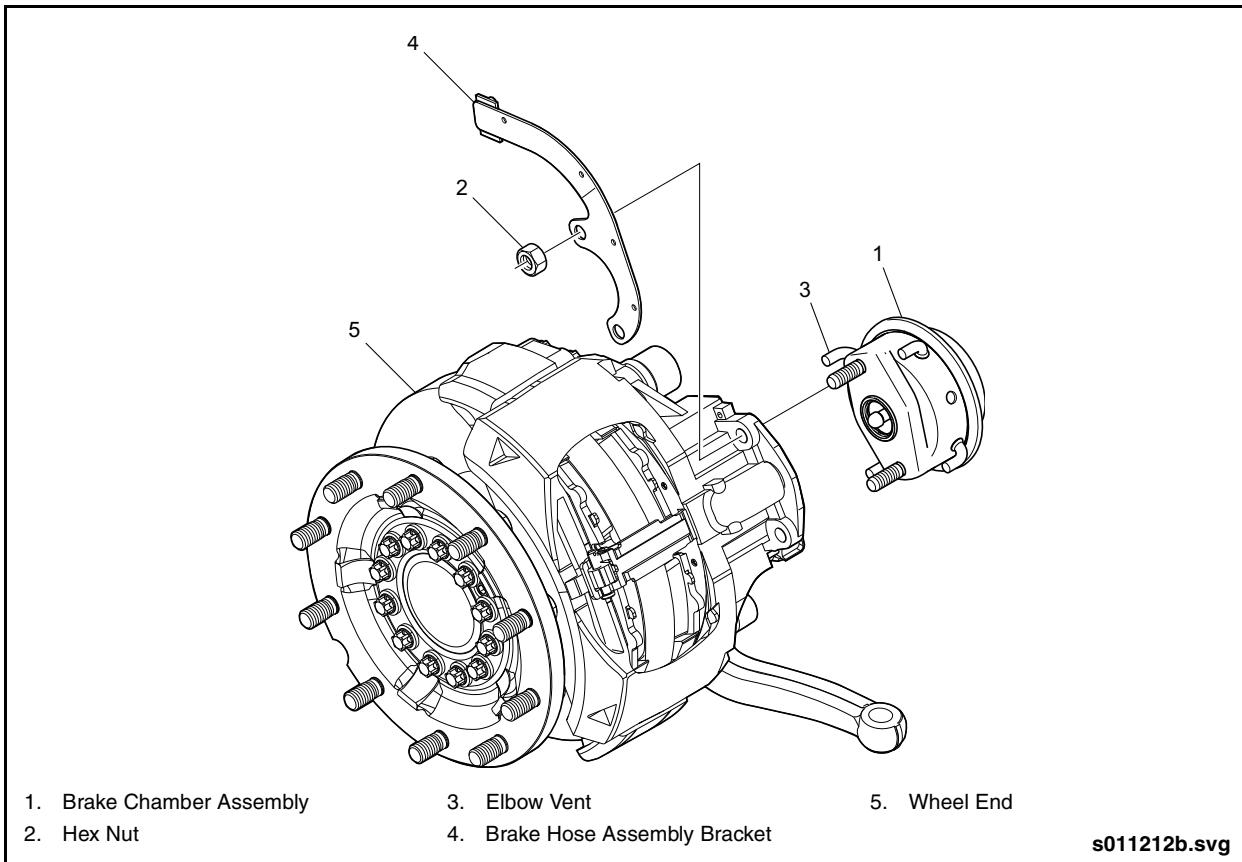

Fig. 1-75: Front Brake Chamber Removal & Installation
6. Remove the two lock nuts securing the brake chamber to the brake caliper assembly and remove the brake chamber from the vehicle. See "Fig. 1-75: Front Brake Chamber Removal & Installation" on page 72.